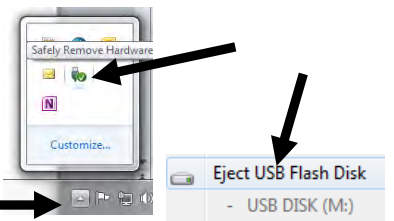

Figure 10
17. Click on Eject USB Flash Disk (see Figure 10).